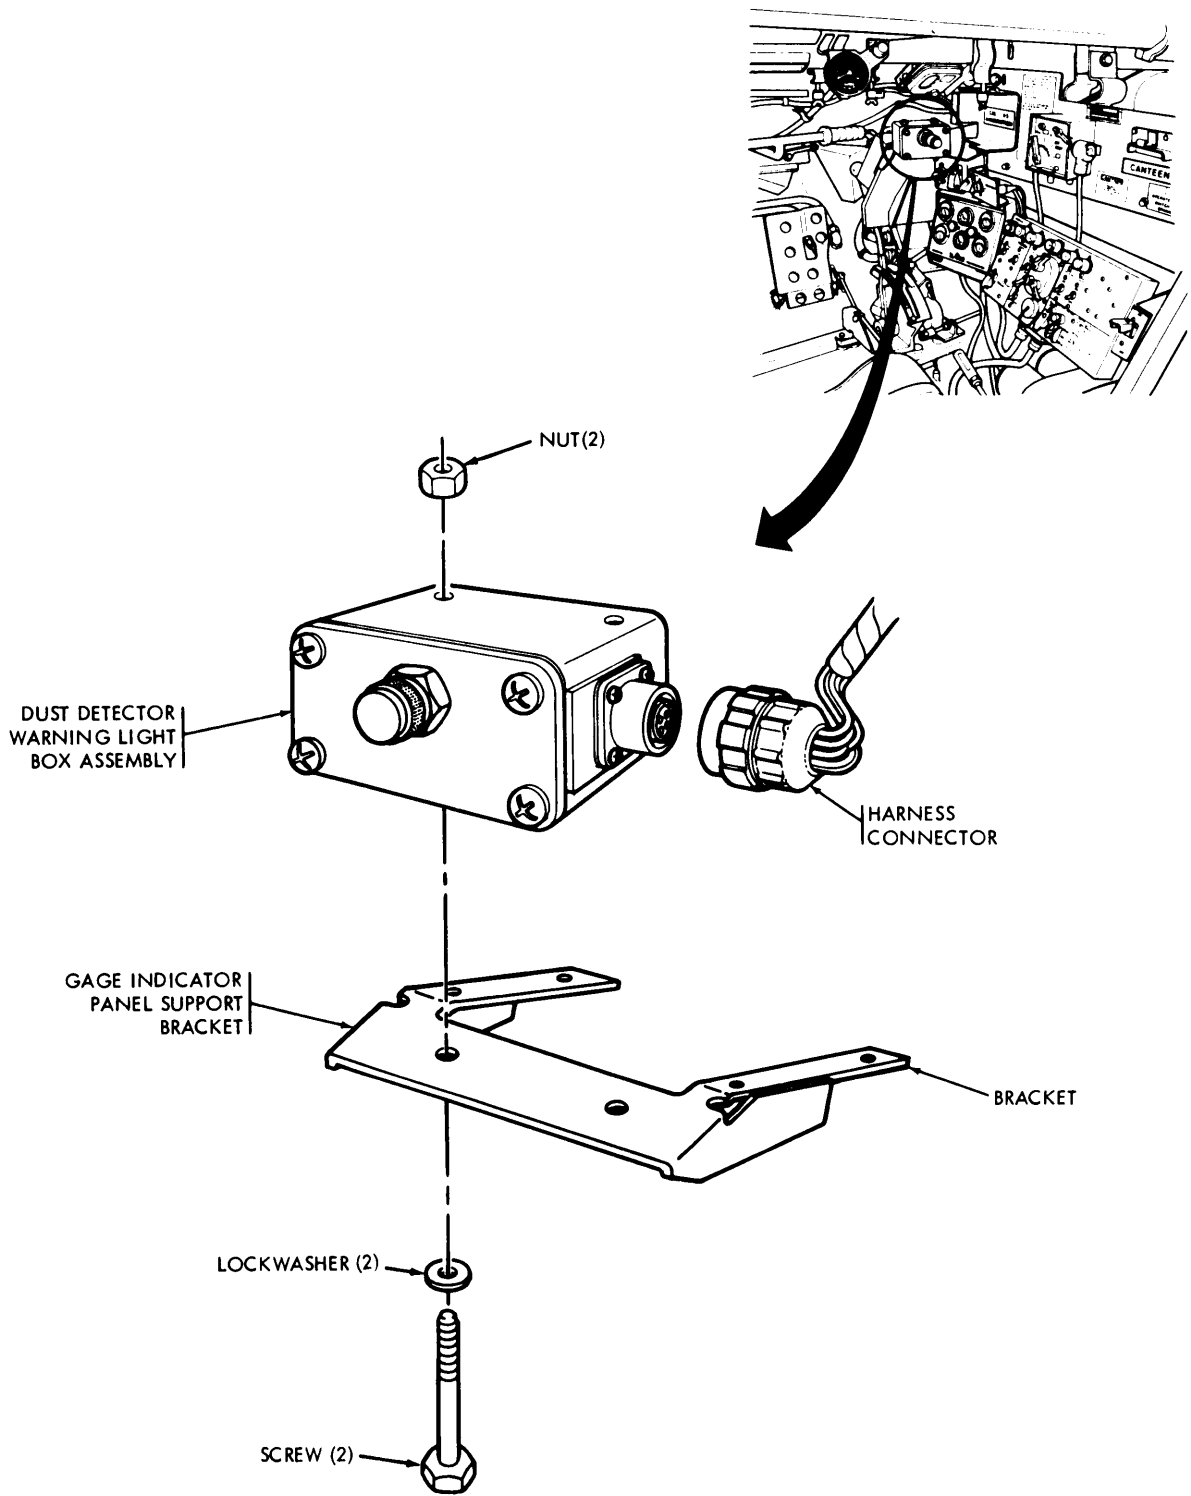

Figure 6-25. Dust detector warning light box assembly replacement (M728).
*h. Dust Detector Warning Light Box Assembly Replacement (M728) (Fig. 6-25).*
*(1) Removal.*
*(2) Installation*